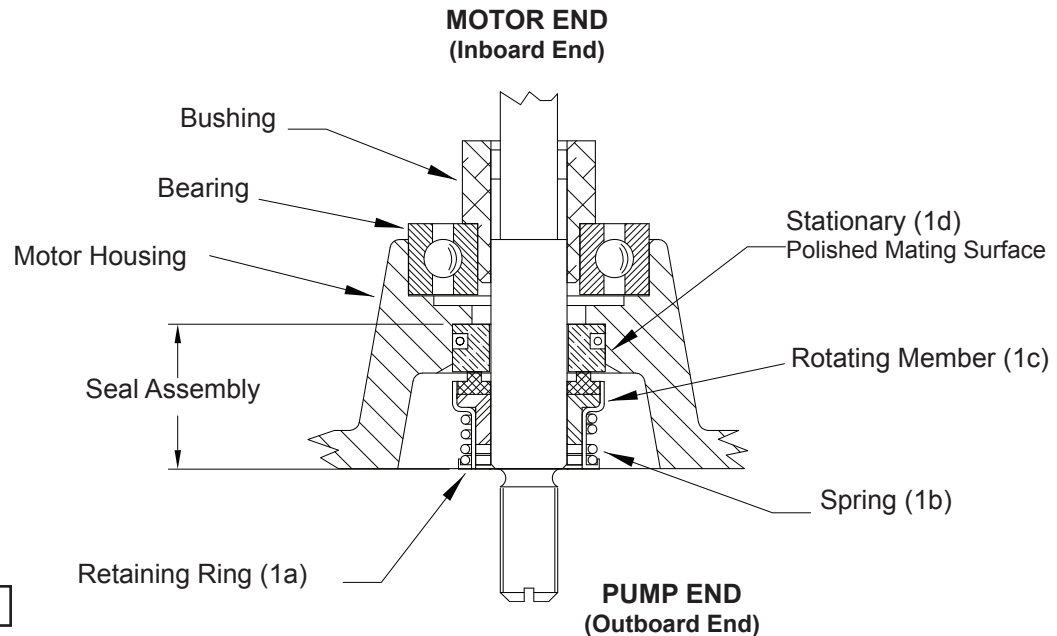
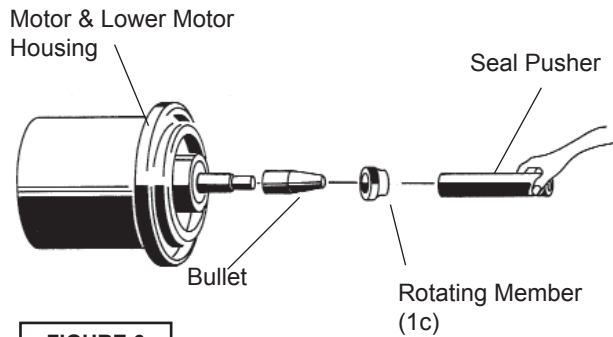

FIGURE 4
FIGURE 6
To expose shaft seal (1) disassemble volute and impeller as outlined in above paragraph. Remove rotating member (1b) from shaft (See Fig. 4). Examine all seal parts and especially contact faces. Inspect seal for signs of wear such as uneven wear pattern on stationary members, chips and scratches on either seal face. **DO NOT** interchange seal components, replace the entire shaft seal (1). If replacing seal, remove stationary (1a) by prying out with flat screw driver.
bullet (see parts list-seal tool kit) over motor shaft. Lightly oil (DO NOT use grease) shaft, bullet and inner surface of bellows on rotating member (1b) See Fig. 6. With lapped surface of rotating member (1b) facing inward toward stationary member (1a), slide rotating member (1b) over bullet and onto shaft, using seal pusher, until lapped faces of (1a) and (1b) are together (See Fig. 4).